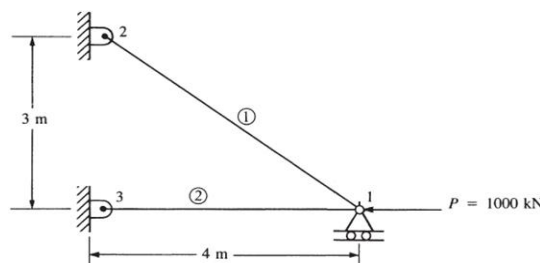

Figure1
- 14 Calculate the nodal displacements of the truss shown in figure 1. The truss members are subjected to load P . [$E = 200 \text{ GPa}$, $A = 500 \text{ mm}^2$ for all members].